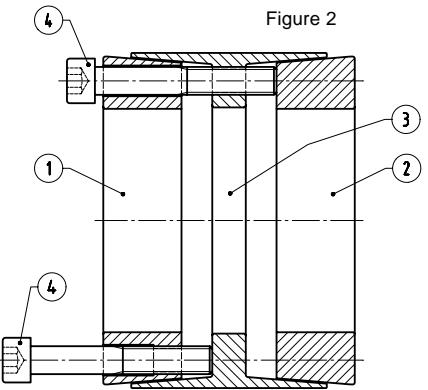

Figure 2
(Refer to Figure 2)
2. Remove all locking screws. Transfer required number of screws into all push-off threads of clamp collar Item 1 (see Figure 2).
4. Transfer locking screws used for dismantling of clamp collar Item 1 into all push-off threads in center collar Item 3 (see Figure 2). Release clamp collar Item 2 by repeating procedures outlined in Step 3.